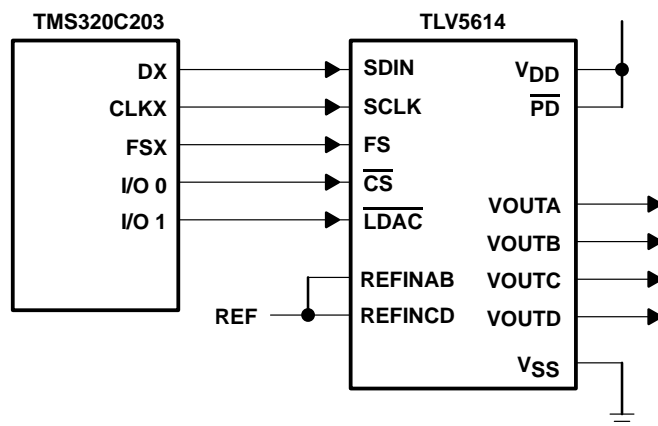

Figure 17. TLV5614 Interfaced with TMS320C203
Figure 17 shows an example of how to connect the TLV5614 to a TMS320C203 DSP. The serial port is configured in burst mode, with FSX generated by the TMS320C203 to provide the frame sync (FS) input to the TLV5614. Data is transmitted on the DX line, with the serial clock input on the CLKX line. The general-purpose input/output port bits IO0 and IO1 are used to generate the chip select ($\overline{\text{CS}}$) and DAC latch update ($\overline{\text{LDAC}}$) inputs to the TLV5614. The active low power down ($\overline{\text{PD}}$) is pulled high all the time to ensure the DACs are enabled.